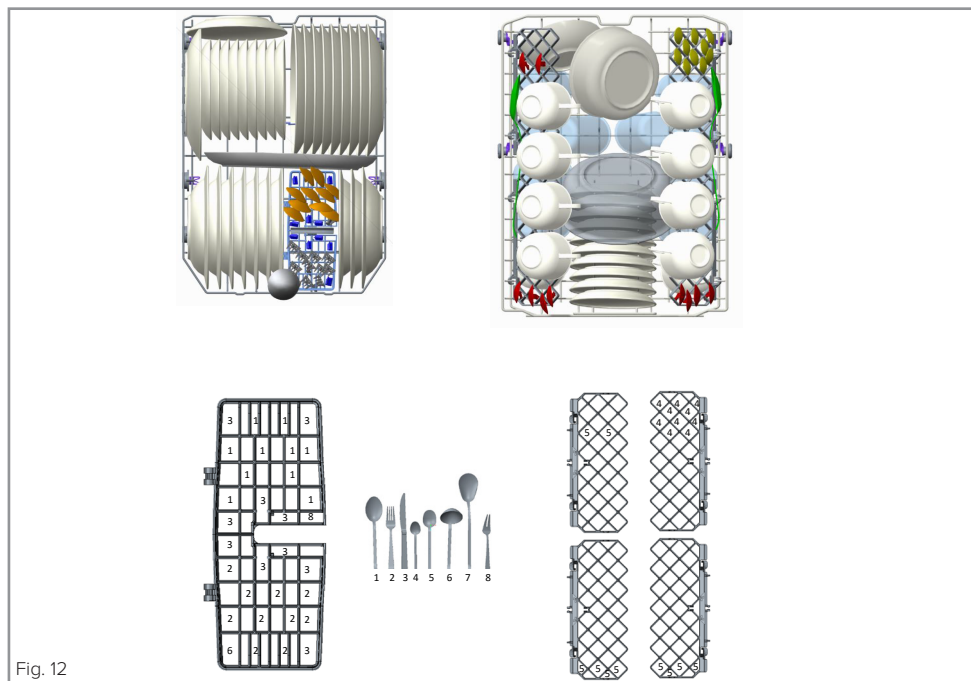

Fig. 12
The images below are provided as guidance as to best practice for loading the dishwasher. For loading the dishwasher to its 10 place setting capacity, see Fig. 12 on page 16.
- Upper and lower baskets: 10 place settings (See Fig. 12).
Wash performance is of a low standard.	<p>Poor loading of dishes hinders wash performance</p> <p>(See Fig. 12 on page 16).</p> <p>Insufficient detergent added.</p> <p>Inappropriate wash programme selected.</p> <p>Spray arm is blocked.</p> <p>Filters clogged or incorrectly fitted.</p> <p>Water drain pump is blocked.</p>